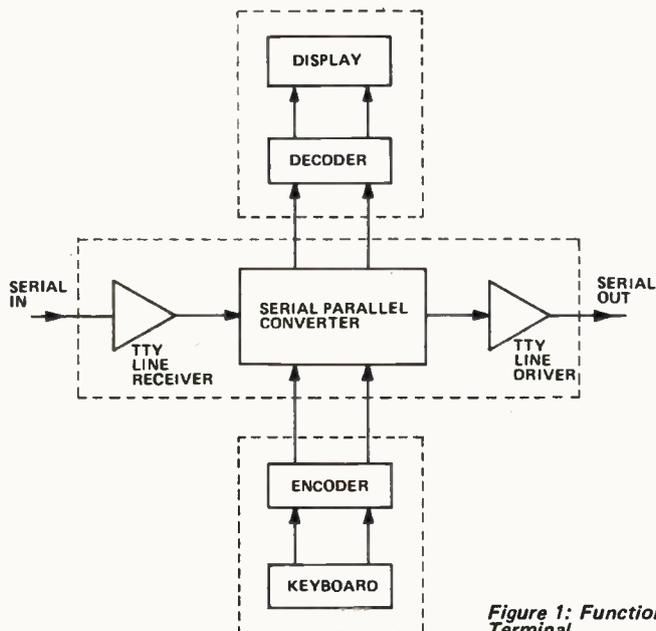

Figure 1: Functional block diagram of a Terminal.
The third alternative is to build your own terminal from scratch. Ideally this would imitate a teletypewriter so the computer won't know the difference. Such a terminal would consist of three parts (1) the keyboard to input data, (2) the display to output data and (3) the serial/parallel converter to produce the teletype interface signals. See Figure 1.